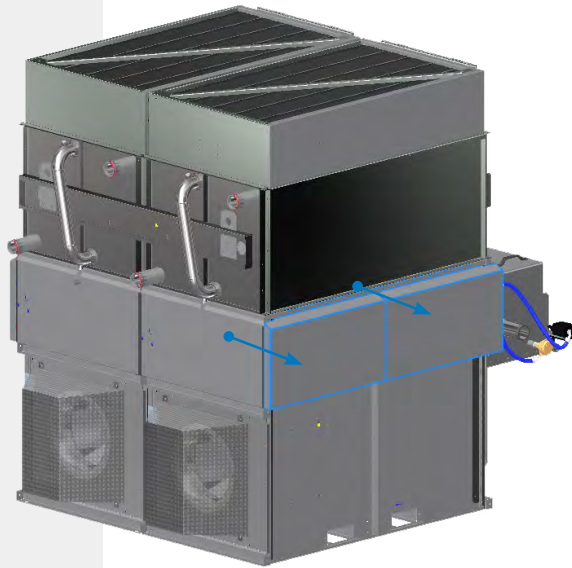

Figure 12. Location of Component Wiring
2. Remove the side cover panel located on the opposite side of control panel. Find the component wire (drain valve, conductivity sensor or make-up valve) stored under cover panel. See **Figure 12** on page 14.
2. Find the conductivity sensor and the drain valve component wires on the side of unit opposite from the control panel. Pull the wire around the corner to back (opposite the basin side) and secure to the mounts with zip ties (provided by BAC). Pull the wire through the first notch from top and secure the wire to the hole with zip ties. See **Figure 12** and **15**.